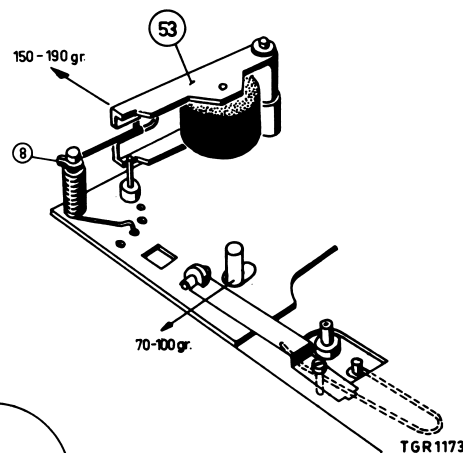

Fig. 3
- The force needed for pulling the pressure roller clear of the capstan, must be between 170 ± 20 gr. see Fig. 3.
In the case of insufficient torque of the winding friction first, the pressure force of the pulley against the right-hand turntable should be measured, as indicated in Fig. 3. Too high a pressure force will considerably decrease the torque of the winding friction (120-150 gr.). If after adjustment of the pressure force the torque of the winding friction still is not correct, the winding friction, item 63, should be replaced. After replacement this friction should be checked again.
- The pressure of the pulley of the friction against the right-hand turntable must be  $85 \pm 159$  gr., see Fig. 3.